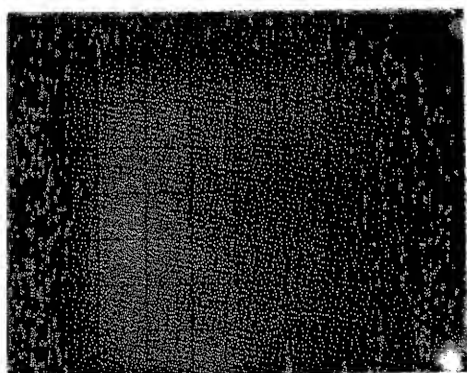

Figure 3-3. Background illumination immediately after erasing with WRITING SPEED in FAST and PERSISTENCE to MAX
h. Background illumination. A green cloud of illumination visible on the CRT screen, figure 3-3.